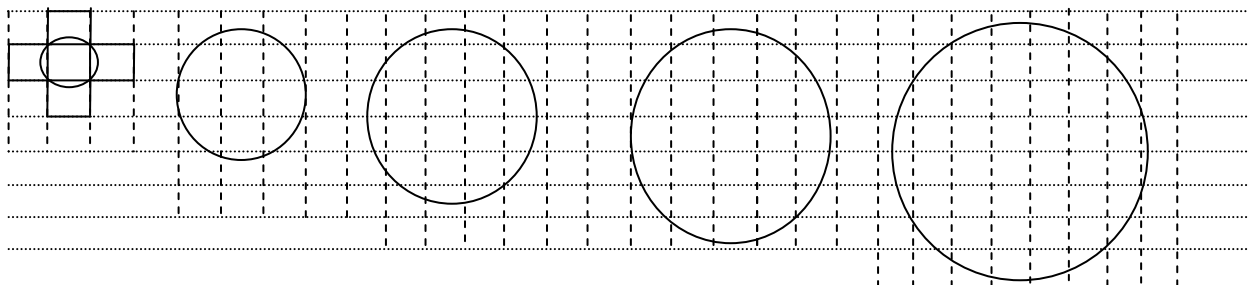

Fig.4 Measuring the area of circles on large paper (ex.: For the first circle $A_{\text{min}}=1\text{div}^2$ and $A_{\text{max}}=5\text{div}^2$)
- Follow by drawing vertical and horizontal **equidistant** parallel lines at distance 1div, as shown in figure 4 and after that draw the other 4 circles with increasing diameter to the right (see fig.4).
Fig.7 Remove all objects and pieces of string from the paper and erase the writings on it. Then, draw a square inside the smallest circle. Cut a small piece of string or thin wire with length equal to the side of the small square. Label it as 1Div. Next, draw parallel lines at distance 1Div from each other as shown in figure 4.